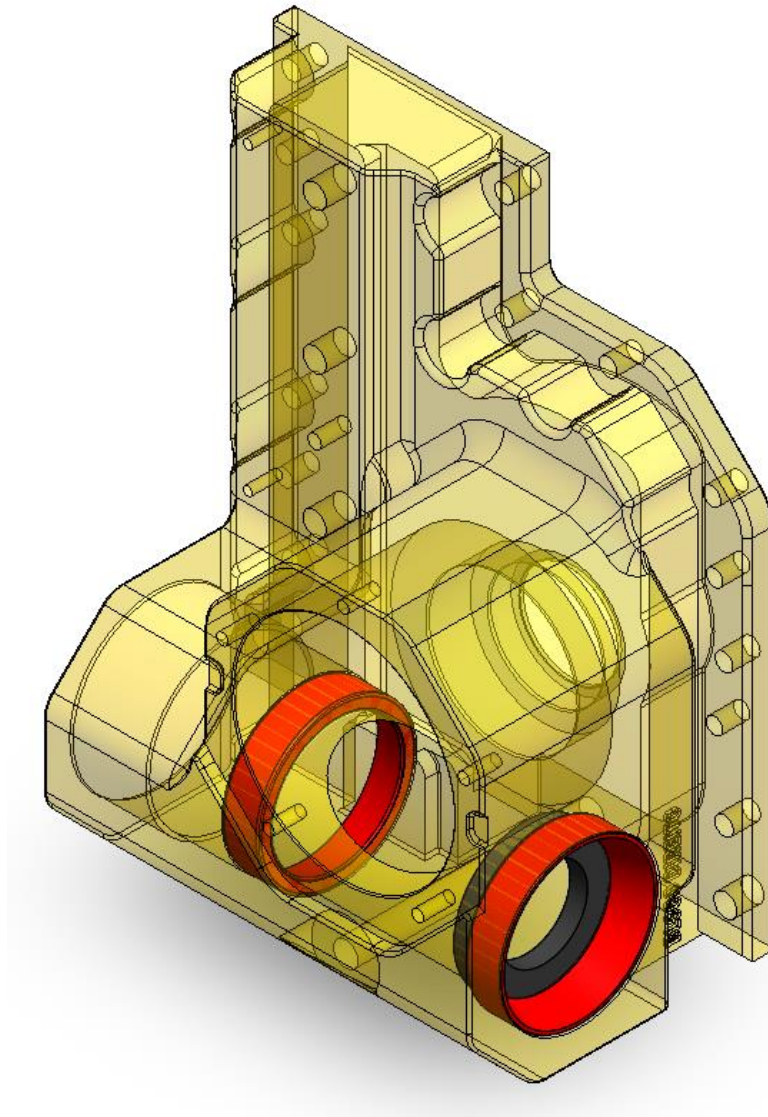

Figure 9
- a. Install the wheel seal (1-4/35) in the block (1-4/5), after installing the outer ring of the bearing (1-4/30), on the right side of the block and the outer ring of the other bearing (1-4/30) on the left side of the block. According to Figure 9.